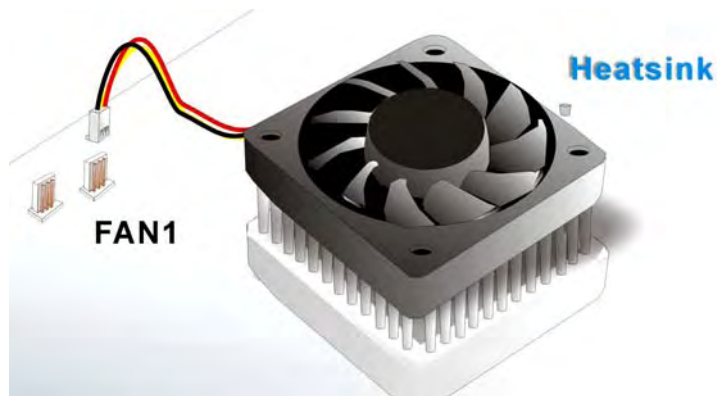

Figure 4-5: Connect the cooling fan cable
Step 5: **Connect the fan cable.** Connect the cooling kit fan cable to the fan connector on the motherboard. Carefully route the cable and avoid heat generating chips and fan blades. (See **Figure 4-5**)